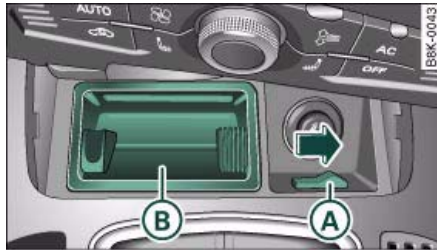

Fig. 95 Centre console:
- Slide the switch (A) ⇒ fig. 95 to the right to release the ashtray.
- Take out the ashtray (B) ⇒ fig. 95.